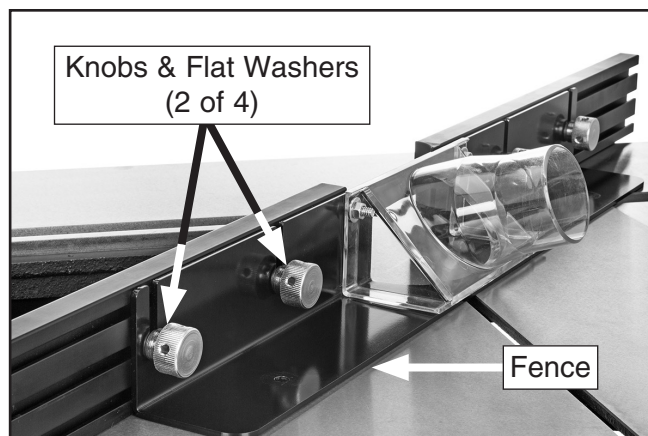

Figure 23. Infeed fence secured to base.
15. Secure infeed fence to base with (4) $\frac{1}{4}$ " flat washers and (4) $\frac{1}{4}$ "-20 steel knobs (see **Figure 23**).